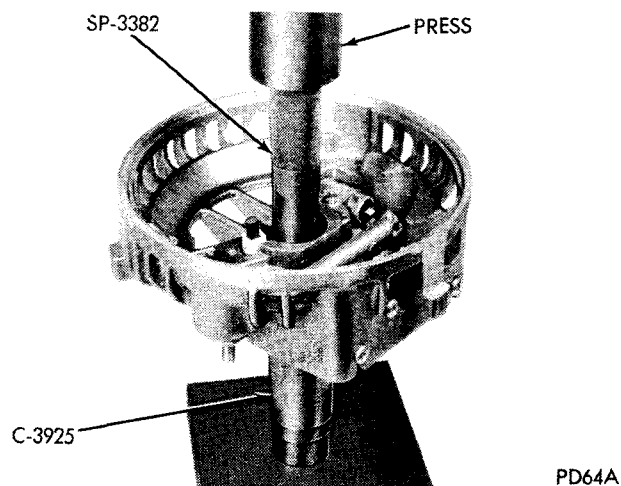

Fig. 25—Removing Rectifier End Shield Bearing
- (5) The needle roller bearing in rectifier end shield is a press fit. If necessary to remove rectifier end frame needle bearing, protect end shield by supporting shield with Tool C-3925 when pressing bearing out with Tool C-3770A (Fig. 25).